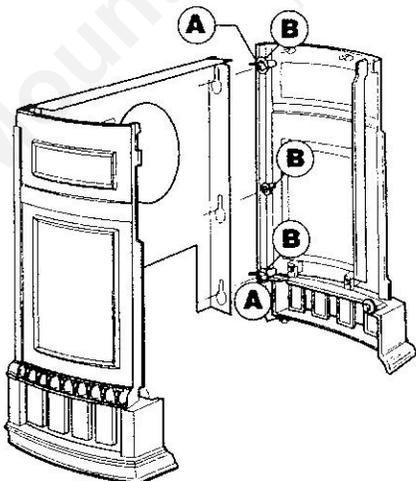
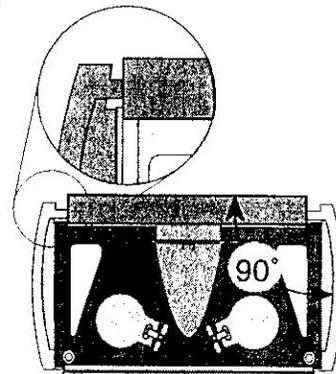

Figure 3-4. Fasten the Right End to the Rear Shroud.
Figure 3-5. Slide the firebox into position; check the alignment of both sides with the Rear Shroud.
2. Repeat Step 1 to attach the Right Side Plate to the Rear Shroud. Fig. 3-4. Align the two side plates to be perpendicular to the Rear Shroud as in Fig. 3-5.
2. Lift the PDV20 firebox assembly and slide it back into position in the shell. The base of the firebox should rest on the side support shelves as in Fig. 3-5&6.